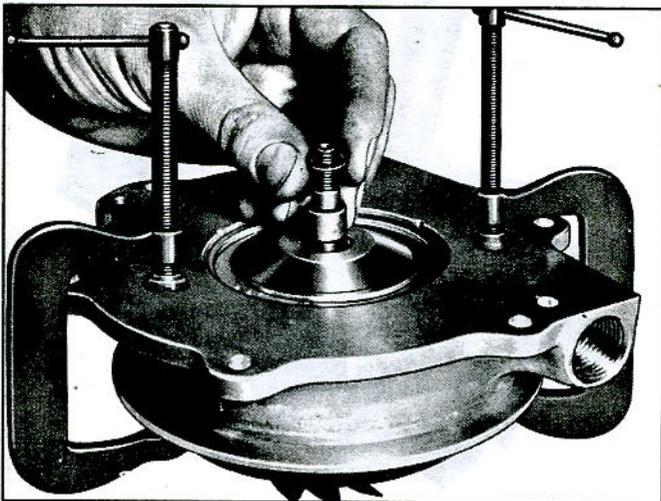

Fig. 52—Shaft Sleeve and Shim Installation
- Install the shaft sleeve (fig. 52), impeller shim (determined in Step 8f) and start the impeller on the turbine shaft.